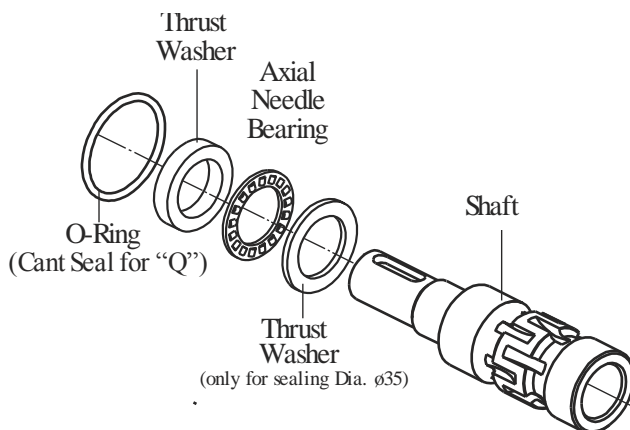

Fig.6
13. Remove thrust washer and needle bearing from shaft (see Fig.6).
5. Install needle bearing, then thrust washer on the shaft (see Fig.6).